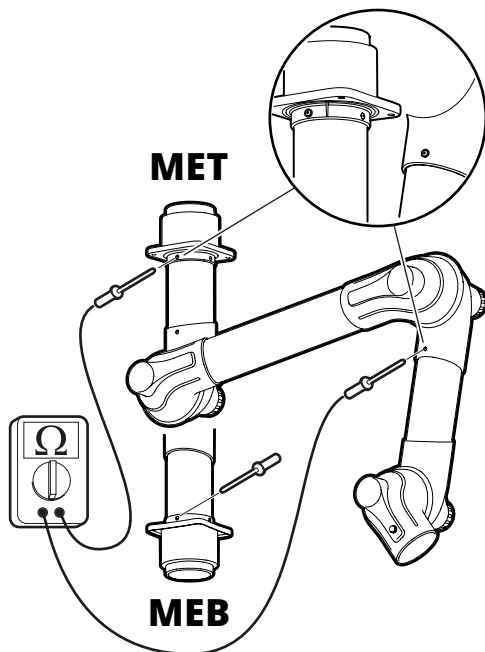

Fig. 12
3. Check the resistance of the extraction arm with a calibrated ohmmeter. See **Fig. 12**. The resistance between the measuring points must be less than 1 MΩ.